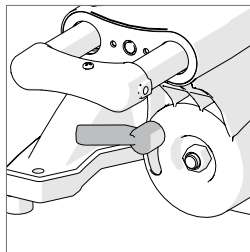

Fig. 4
- Slacken the Bevel Locking Handle. (**Fig. 4**)
WARNING: Read steps associated with **Figs 4, 5, 6 and 7 before proceeding.**